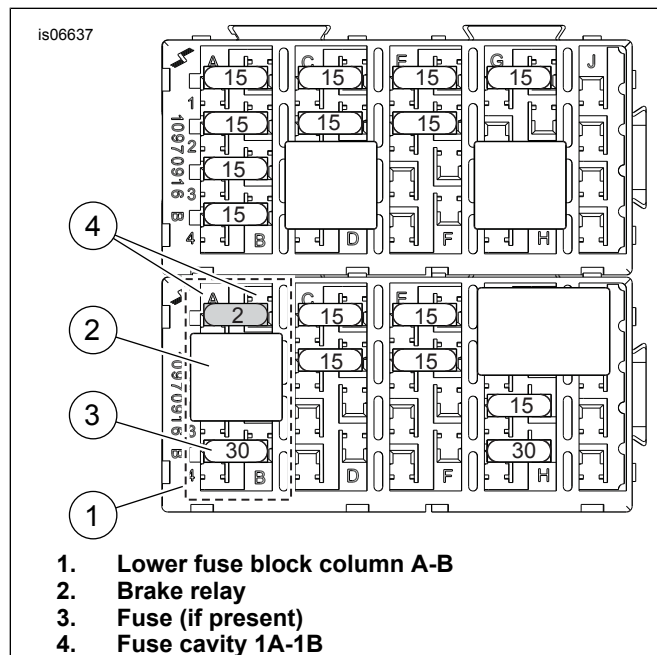

Figure 14. P&A IGN Fuse Cavity (2008 and Later Touring Models)
- See Figure 14. Locate fuse cavity 1A-1B (marked "P&A IGN", "2A MAX" on the cover) on the lower fuse block (1). Remove the brake relay (2) and fuse (3, if present) currently installed in column A-B, noting their location.